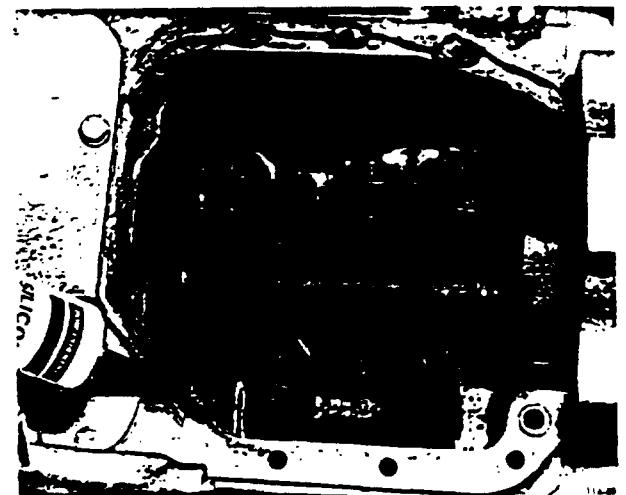

Figure 2-81. Applying Silastic
4. Apply a bead of Silastic to the mounting surface of the block. Use extreme care not to allow the Silastic to enter/block the oil supply port. See Figure 2-81.